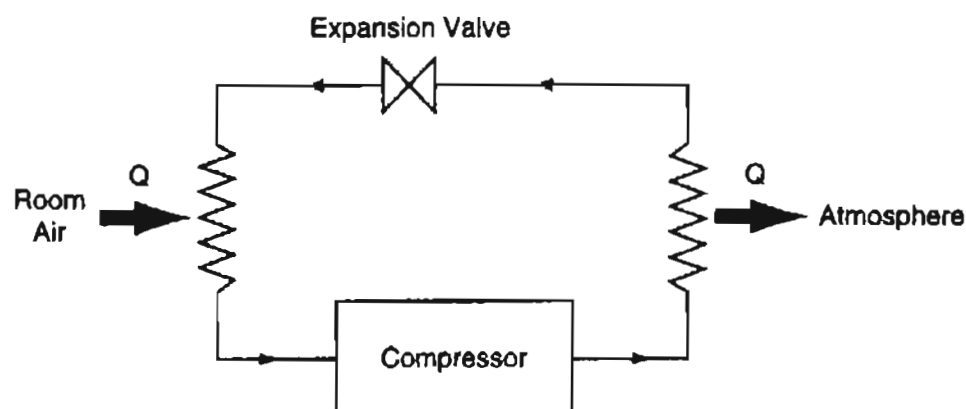

Figure 12.5 Schematic for a closed refrigeration cycle.
3. **Circulation of a working fluid.** A number of processes use the closed circulation of a working fluid for heating or refrigeration. Refrigeration systems (Figure 12.5), including home air conditioning systems, circulate a refrigerant gas by a compressor so that the gas absorbs heat from the room air and discharges heat to the outside atmosphere.